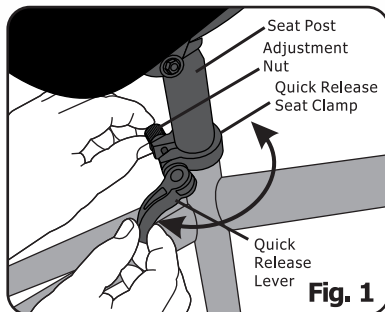

Fig. 1
1. When Quick Release is in the open position, see (Fig. 1) insert the seat post between the Maximum and Minimum Seat Post Marks.
1. Disconnect the V-Brake lever arm, as shown in **Fig. 1**, to allow the front tire to pass between the V-brake pads when the wheel is installed. (1) Squeeze the two lever arms together by hand. (2) Use other hand to pull the guide pipe across and up to unhook from the left lever arm (3). This allows enough room for the wheel to be installed.